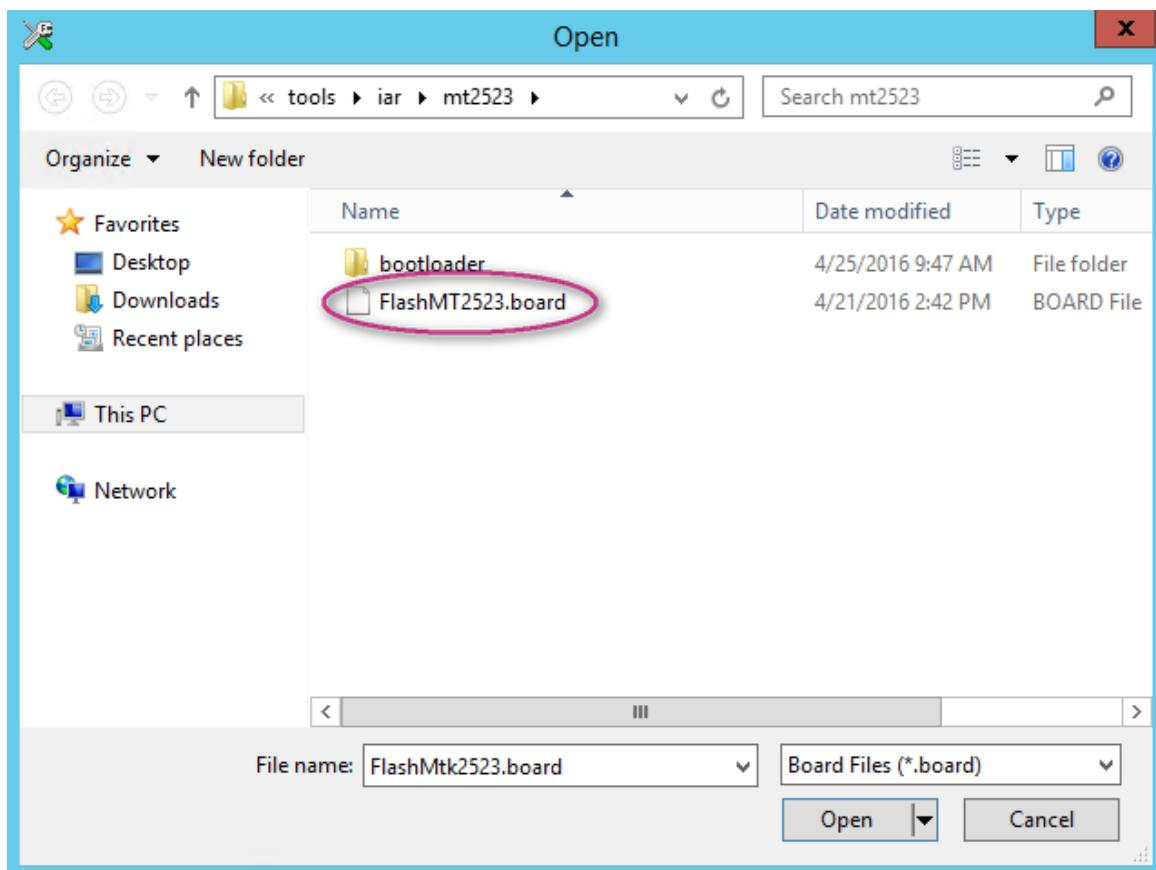

Figure 71. Select the board file
- a) The board file is located under <sdk_root>\tools\iar\mt2523, as shown in Figure 71.